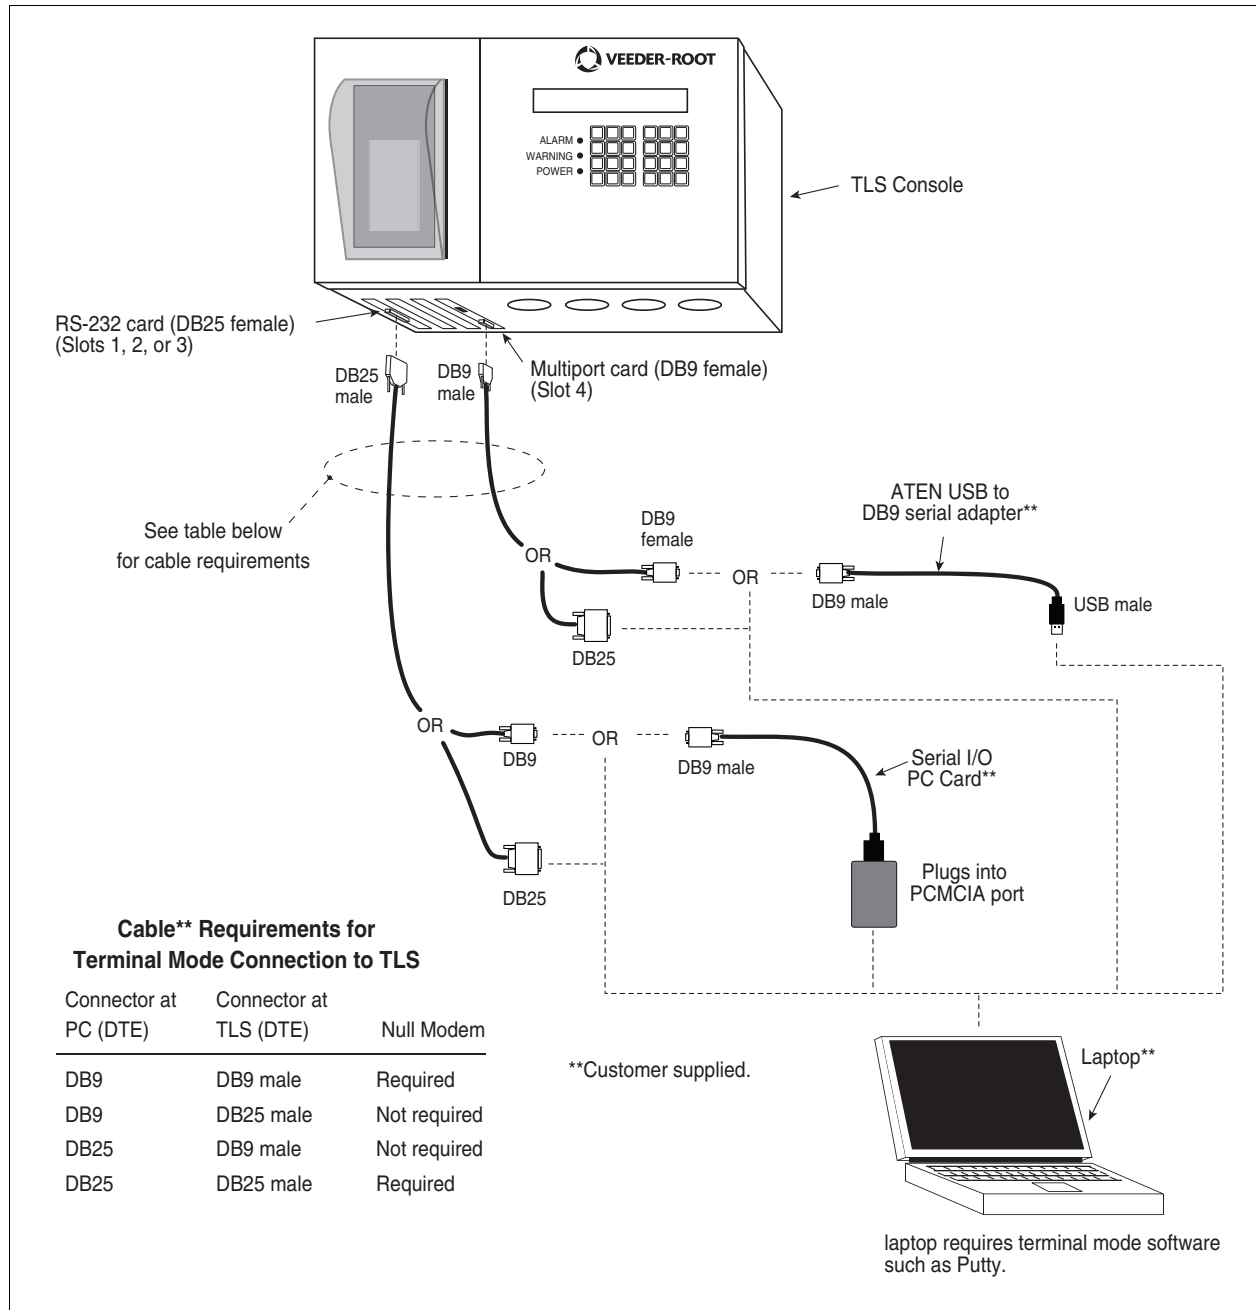

Figure 29. Connecting laptop to TLS console for serial communication
1. Connect your laptop to the TLS console's RS-232 or Multiport card using one of the methods shown in the examples in Figure 29 below.